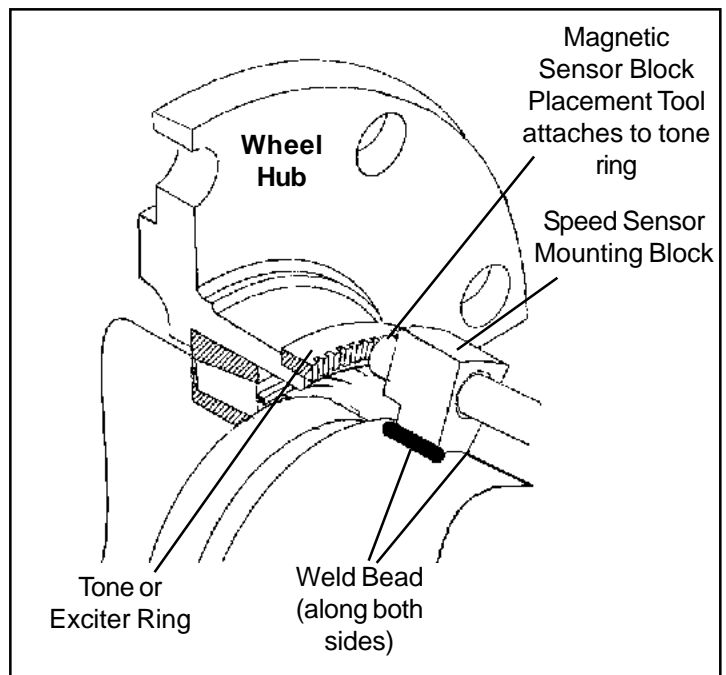

Figure 3
5. Securely position the Sensor Mounting Block by applying the magnetic tip of the Sensor Block Mounting Tool to the tone ring. See Figure 3. Check that the Mounting Block is squarely placed relative to the tone ring.